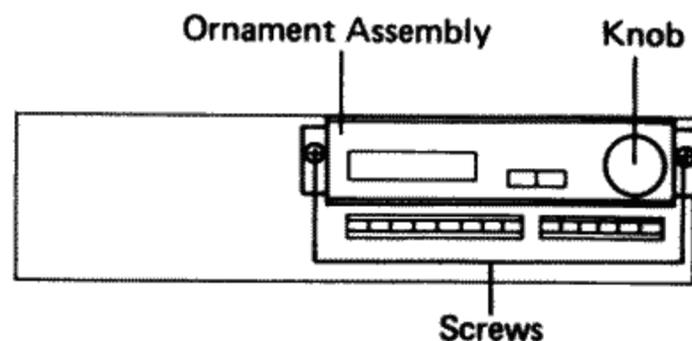

Figure 2
1) Remove a knob and two screws as shown in Figure 2.